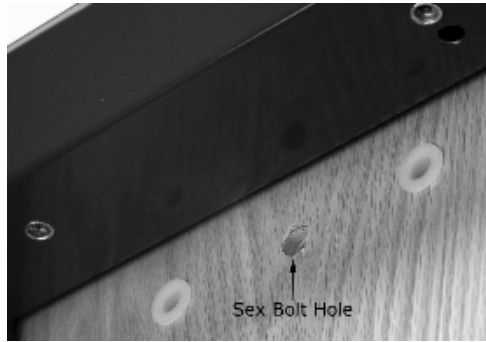

Figure 15. Installing the Sex Bolt
7. From the outside of the door, gently TAP the sex bolt into place (see Figure 15, "Installing the Sex Bolt").